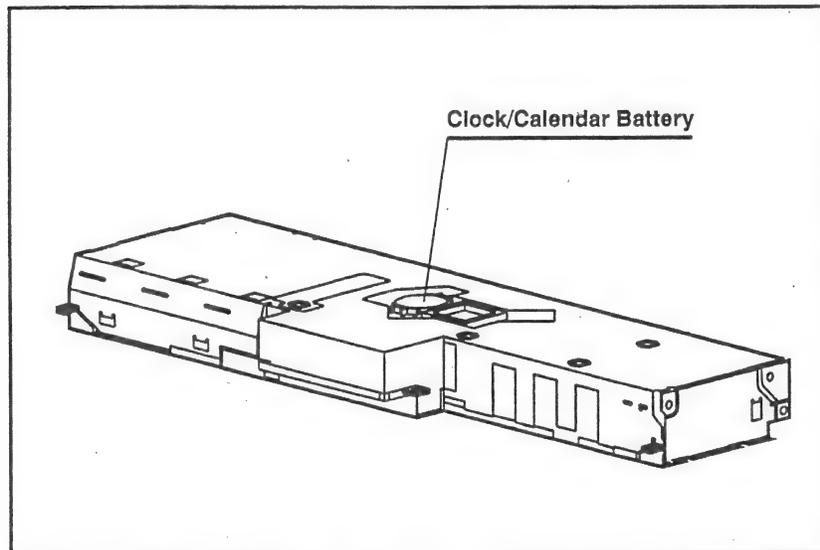

Figure 3-1. Clock/Calendar Battery on the COMPAQ LTE Lite Family of Personal Computers
4. Locate the clock/calendar battery on the system module (Figure 3-1).